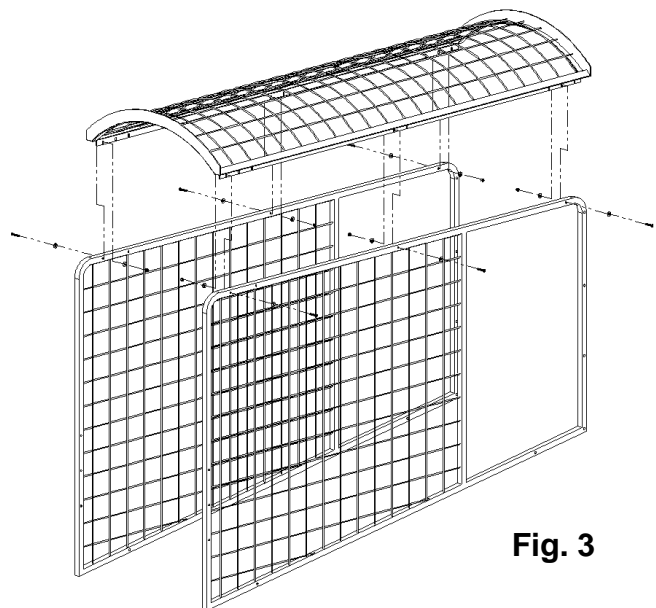

Fig. 3
7. Assemble the cage framework using the two large frame sides and the top. Assemble using (6) 1/4-20 X 1 1/2" button head bolts, (12) flat washers and (6) 1/4-20 Nylock nuts. (See Fig. 3)